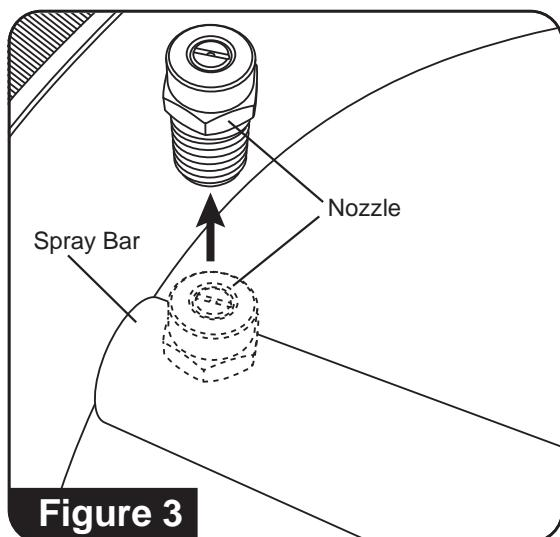

Figure 3
3. Using a 14mm wrench (not provided) remove both nozzles from the spray bar. **(See Figure 3)**